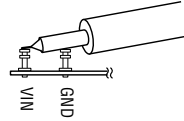

Figure 2. Measuring Input or output Ripple
**NOTE.** When measuring the input or output voltage ripple, care must be taken to avoid a long ground lead on the oscilloscope probe. Measure the input or output voltage ripple by touching the probe tip directly across the Vin or Vout and GND terminals. See Figure 2 for proper scope probe technique.